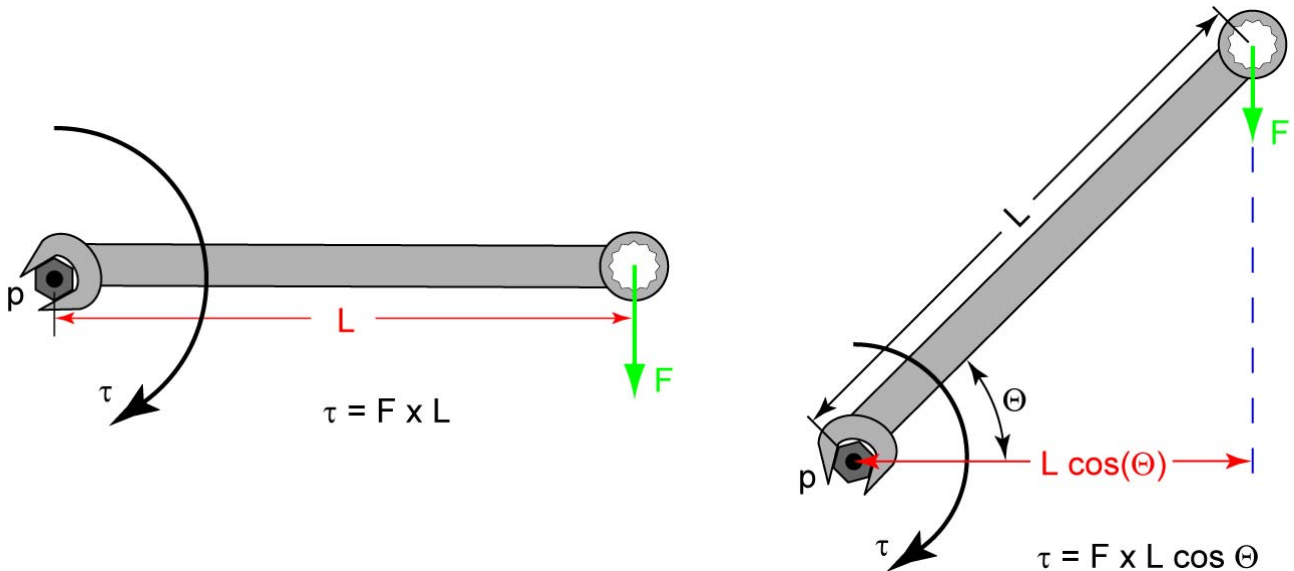

**Figure 11a: The Vehicle Fully Submerged**
- Center of Buoyancy (CB):
- When an object is partly or completely submerged in a liquid, some of that liquid is displaced. The volume of displaced liquid is exactly the same as the volume of whatever part of the object is below the surface. The shape of the volume of displaced liquid is also exactly the same as the shape of the part that is submerged, because the object itself is displacing the liquid. The *center of buoyancy* of the object is located at the center of gravity of the volume of the displaced liquid. It is the point through which the upward buoyant force seems to act. See Figures 11a and 11b.